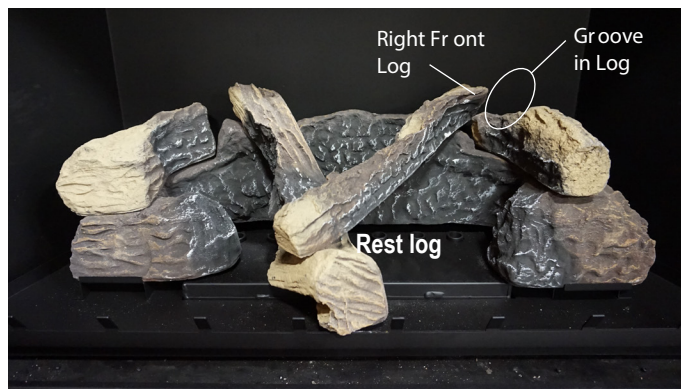

Figure 27d. Placing Right Center Log.
Step 7. Place the Right Centre log as shown in figure 27d.